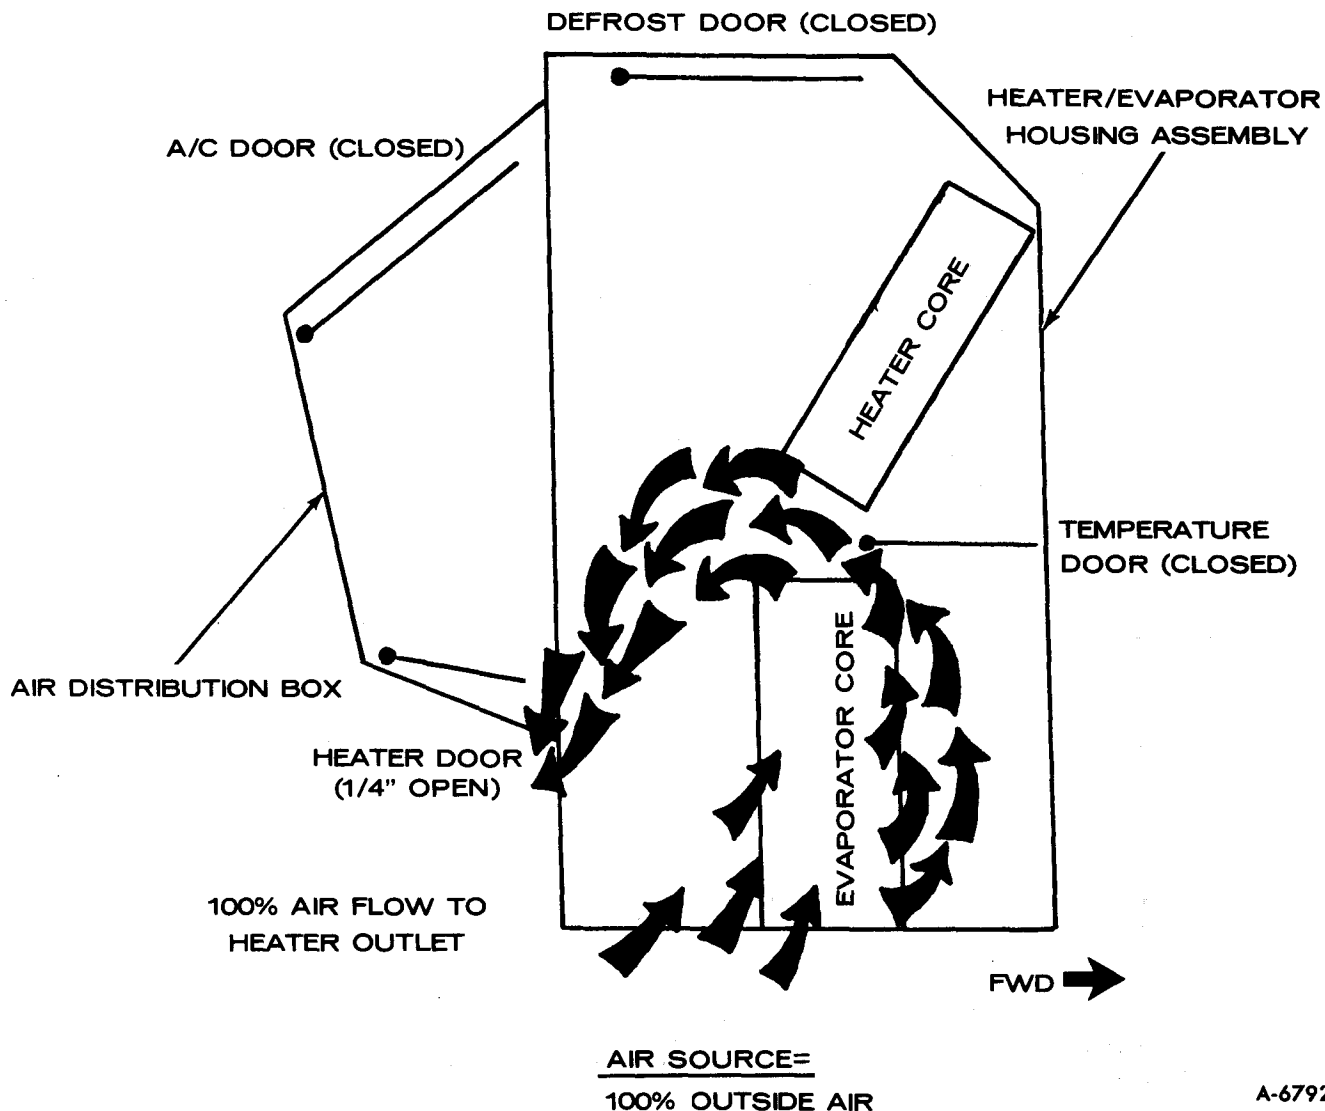

Figure 29—A/C "OFF" Position Air Flow (Engine Running)
**"OFF" POSITION (FIGURES 29 AND 30)**